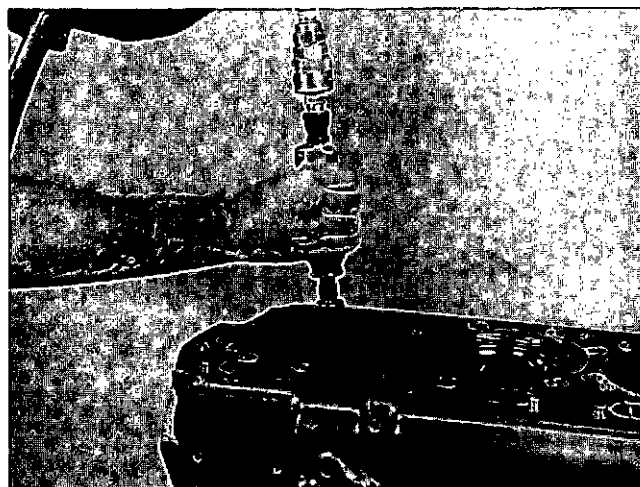

Fig. 0-54 (N100153). Remove The Carbon From The Cylinder Liner
1. Clean the carbon from the upper inside wall of each cylinder liner, Fig. 0-54. Use an emery cloth to polish the liners. Do not damage the liners when you polish them.